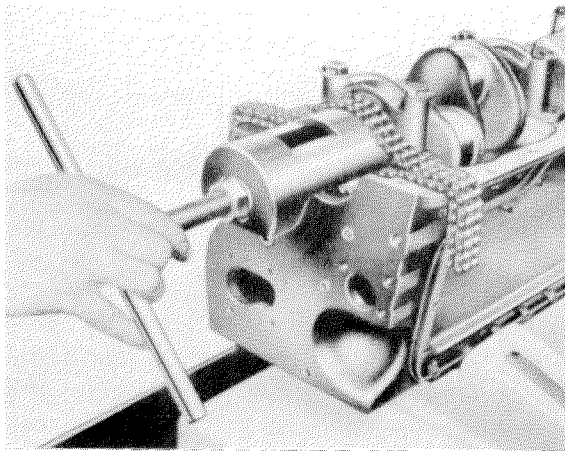

Figure 03-5/9
7. Remove the seal ring, the oil thrower ring and the spacer ring from the crankshaft (see Figure 03-2/1). Use the puller part No. 187 589 00 33 to extract the crankshaft sprocket (see Figure 03-5/9), lifting the double roller chain at the same time. Remove the Woodruff key and the spacer ring.